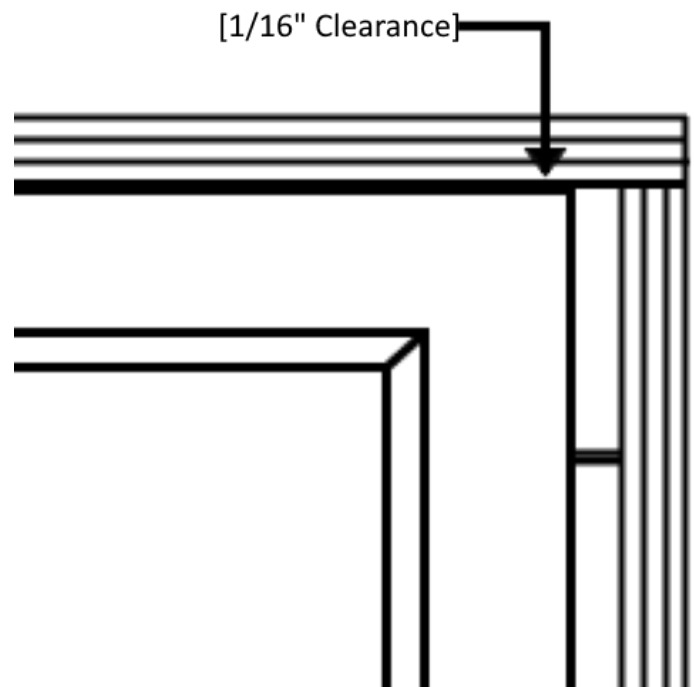

FIGURE 1
3. With the glass and screen removed, install pre-hung unit into the center of the opening. Using a painted screw, attach the hinge rail to the door frame. Check to make sure the hinge rail is straight and plumb, then using a 9/64" drill bit, pre-drill holes and use (6) 1 1/4" #8 painted screws to attach the hinge rail completely.
4. Using a 9/64" drill bit, pre-drill holes through the pre punched header rail to the door frame. Allow approximately a 1/16" clearance across the top of the door. (See Figure 1) Fasten the header rail to the door frame with (2) 1 1/4" #8 painted screws. (See Figure 1)